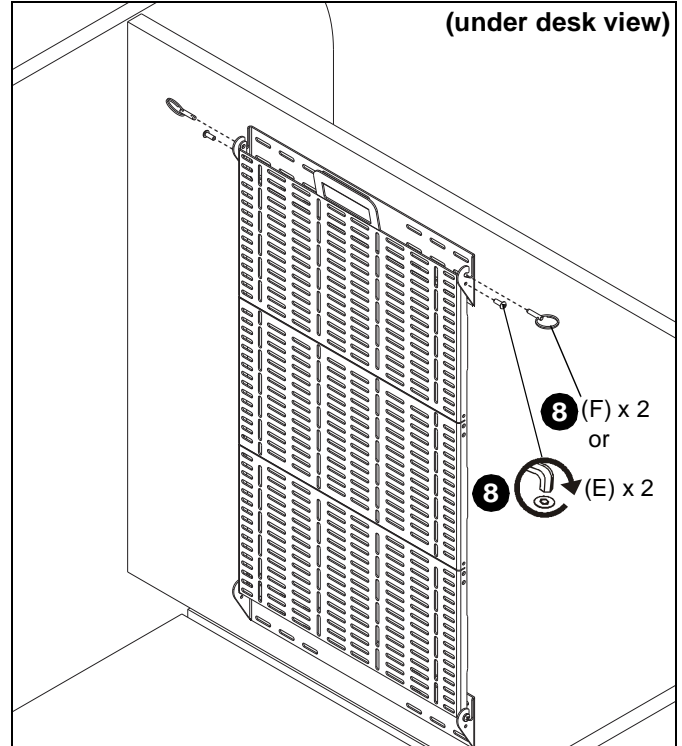

Figure 6
- Use either two quick release pins (F) or two #10-24 1/2" button head security screws (E) to secure accessory desk plate (A) to front desk bracket (B). (See Figure 6)